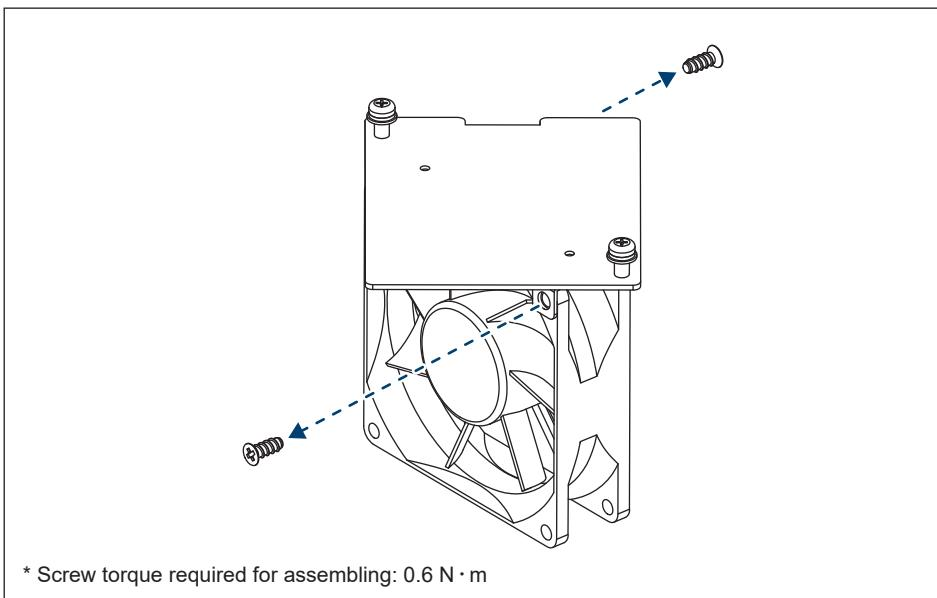

Figure 5-11: Replace with a new fan
- (4) Lift the entire fan assembly. (**Figure 5-11**)
- (5) Clean assembly or replace with a new fan.
- (6) Reassemble by using 0.8 N · m tightening torque.